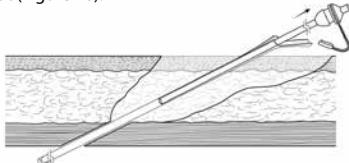

Figure 16
4. Remove cannula out of the Luke Guide by pulling it straight out (Figure 16).